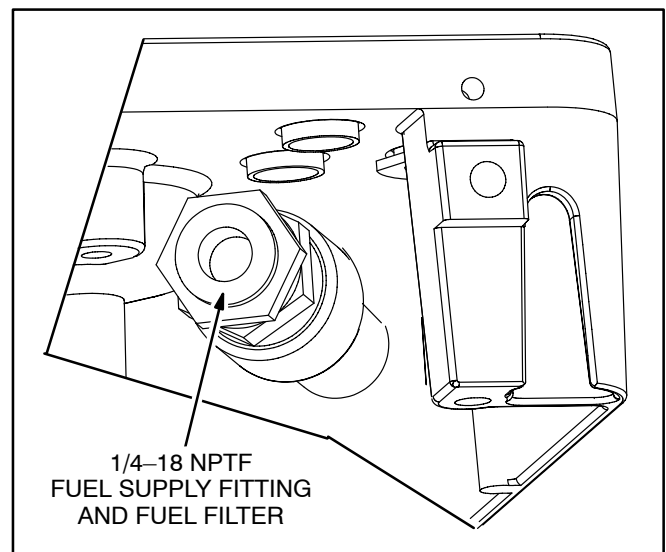
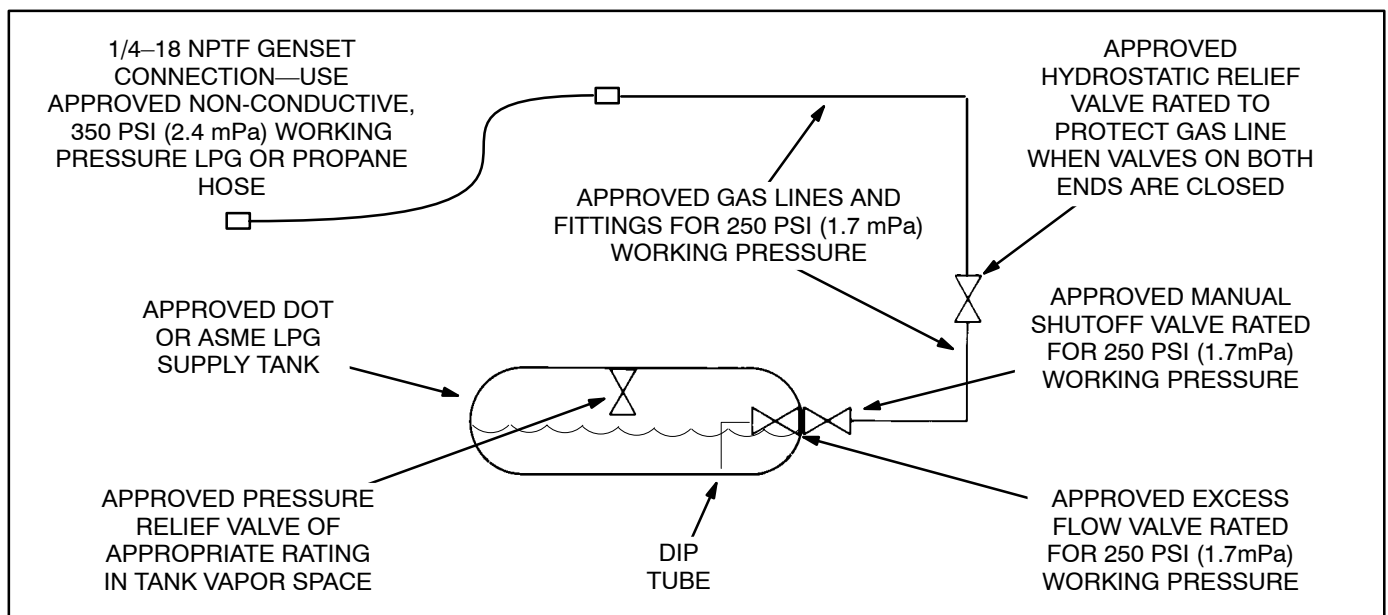

FIGURE 8-16. HIGH-PRESSURE LPG FITTING
FIGURE 8-17. TYPICAL HIGH-PRESSURE LPG SUPPLY SYSTEM (LIQUID WITHDRAWAL)
Remove the filter at the genset supply inlet (Figure 8-16) and clean off debris from the filter and iron filings from the magnet. Torque the filter back on to 25 lb-ft (34 N-m).
**LPG Tank Connections:** High-Pressure LPG genset Models must be connected to the liquid withdrawal fitting on the LPG tank. Use the Standard for the Storage and Handling of Liquified Petroleum Gases (NFPA No. 58) as a guide for the installation of a High-Pressure LPG fuel system (Figure 8-17). Figure 8-16 shows the supply fitting on the genset.